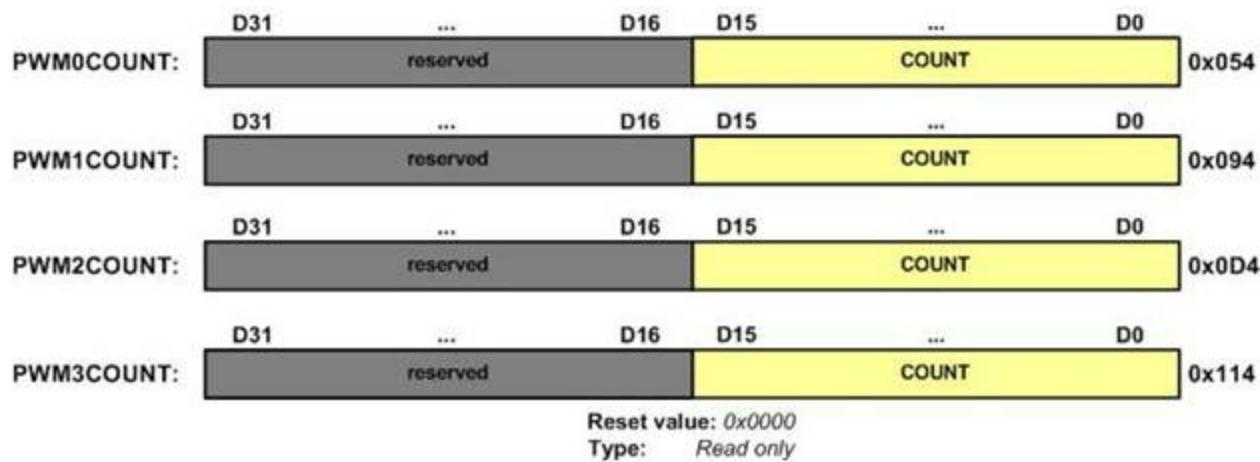

Figure 11-18: PWMxCOUNT (Current Counter)
The current value of the Counter (Generator) can be read from the PWMxCOUNT register. As the Counter (Generator) counts up or counts down, we can read the value of this register at any time. Notice, this is a Read-Only (RO) register. This is similar to free-running counters we see in other microcontrollers. Since the Counter is 16-bit, the PWMxCOUNT gives us the current value of the counter which can be between 0 to 0xFFFF. We can set a maximum value for the Counter using the LOAD register. Figure 11-18 shows the Current Count registers of PWM0